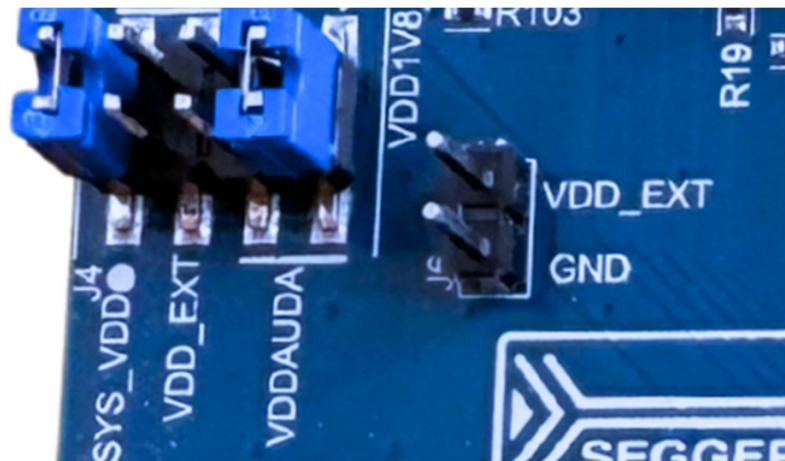
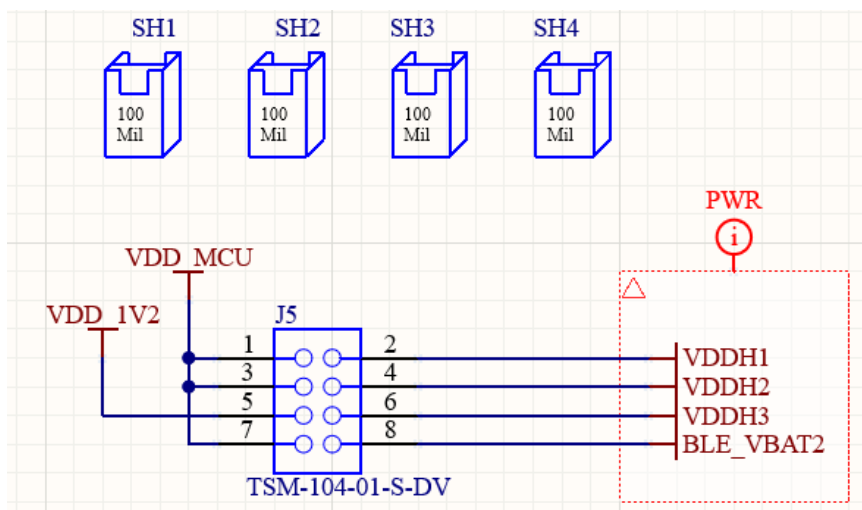

Figure 12. J6 External Supply Header
Figure 15. J5 Power Supply Jumper Connections
- Provide externally-supplied power via J6 (shown but not labeled) in Figure 12.
Figure 15 shows the power sourcing for VDDH1, VDDH2, VDDH3, and BLE_VBAT2. VDDH1, VDDH2 and BLE_VBAT2 are always sourced from VDD_MCU, and VDDH3 is always sourced from VDD_1V2. This header and jumpers are here solely for current measurements.
Current consumption of the Apollo510B EVB can be measured by connecting an ammeter between the corresponding DUT supplies. Refer to Figure 12 or Figure 15 to measure the current draw from the power supply of interest. Before using an ammeter, turn the power off, remove the corresponding jumper and install the ammeter properly prior to powering the board back on. When the current measurements have been completed, reposition the jumper at its former location.